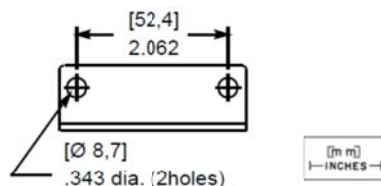
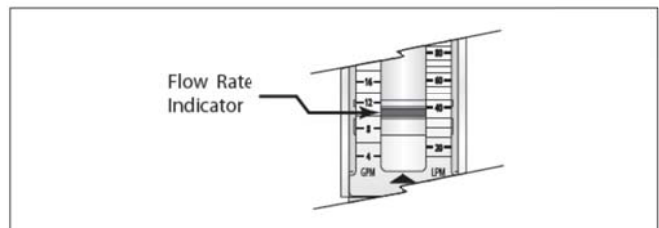

Figure 1. Mounting Bracket Dimensions
Figure 2. Flow Rate Indicator
For Mounting bracket (optional feature) dimensions, refer to Figure 1.
1. Disassemble valve in an orderly fashion using exploded views for identification and placement of parts. Refer to Figure 1 for AC construction; Figure 2 for DC construction.
3. Unscrew solenoid base sub-assembly from valve body. Then remove core assembly with core spring and bonnet gasket. For AC construction (Figure 1) core spring is a loose piece.
IMPORTANT: The spacer on the stem/spacer sub-assembly *must be inside of the stem retainer* for AC construction (Figure 1) and *outside of the stem retainer* for DC construction (Figure 2).
The EZ-View series flow meter is a piston-type variable area flow meter that uses a sharp-edged annular orifice, formed between an open-centered piston and a tapered metering cone. The piston is held in a "no-flow" position at the base of the cone by a precision retention spring. As flow in the pipe increases, the differential pressure correspondingly increases across the piston orifice, and moves the piston/flow indicator against the spring. The greater the flow rate, the further the piston moves along the tapered metering cone. The flow rate is measured by viewing the red indicator ring, mounted on the piston, relative to a graduated flow scale located on the transparent flow meter body. See **Figure 2**.